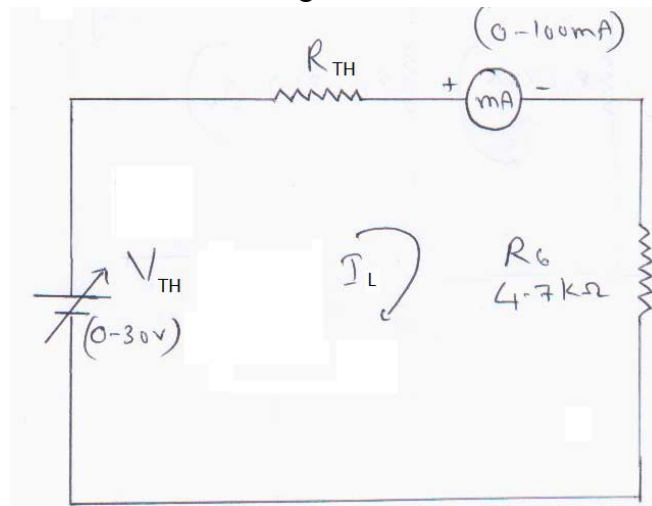

Figure 2.3
6. Now connect the circuit diagram in figure 2.3 in bread board and note down the  $I_L$  value by varying  $V_{TH}$  (fix the values of  $V_{TH}$  got from step 4).